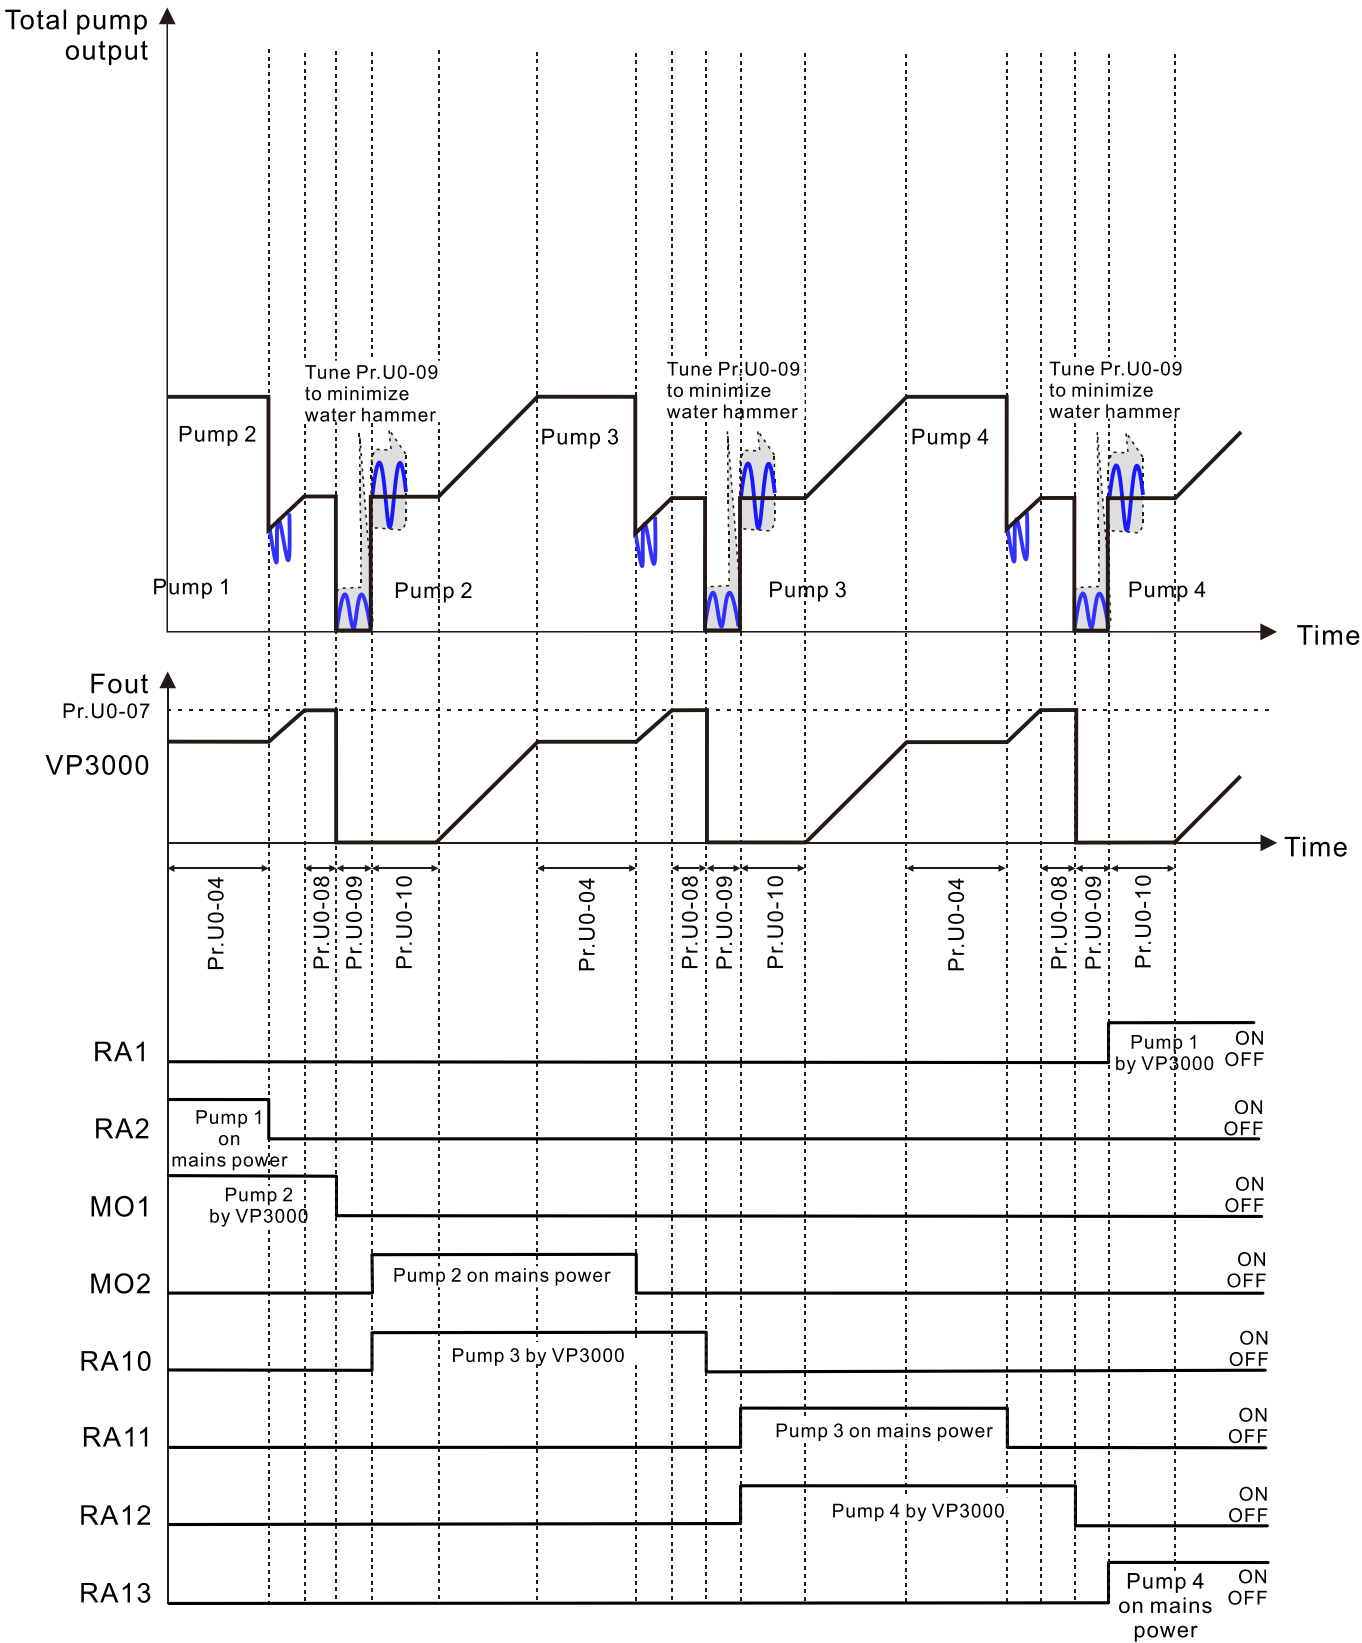

Figure 15 Situation 2 Sequence
- 📖 When the system water demand only needs two pumps to balance the pressure, and the AC motor drive runs one set of master pumps and the mains power supplies to one auxiliary pump, turn off the first auxiliary pump (Pump 1) first according to Pr.U0-04 (Circulation Time) to reduce the master pump pressure and increase the speed. The current master pump (Pump 2) then cuts off from the mains power to become an auxiliary pump, and the next pump (Pump 3) will be started as the master pump (refer to Figure 15), and so on.